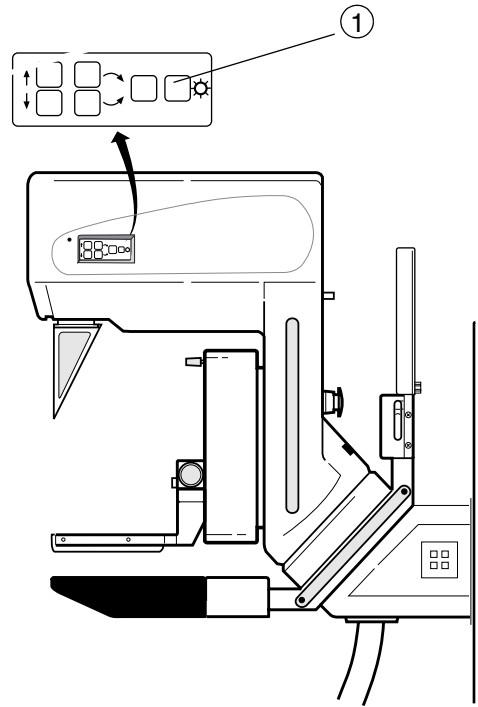
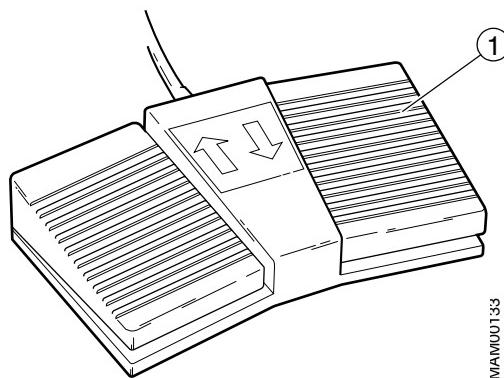

Fig. 8 Field lightswitch
Fig. 9 Foot switch
1. Switch on the field light by pressing the switch (1/Fig. 8) or by pressing the compression foot switch (1/Fig. 9).